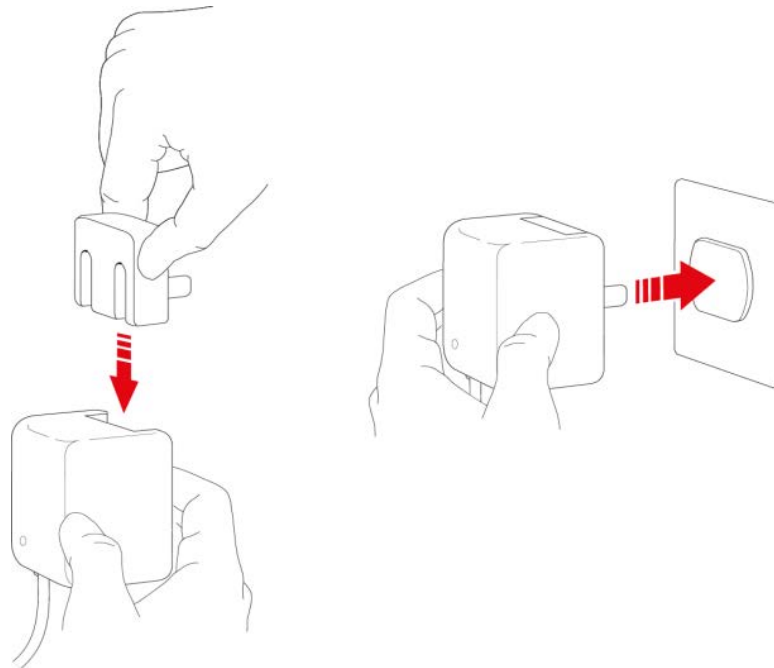

Figure 30 Power Plug 12 V (Power cable for gas control module)
6. Attach the included AC plug to the power adapter and plug in the adapter into an uninterruptable power outlet (100-240 V, 50/60 Hz). A green light on the power adapter indicates that it is working (see Figure 30, below).